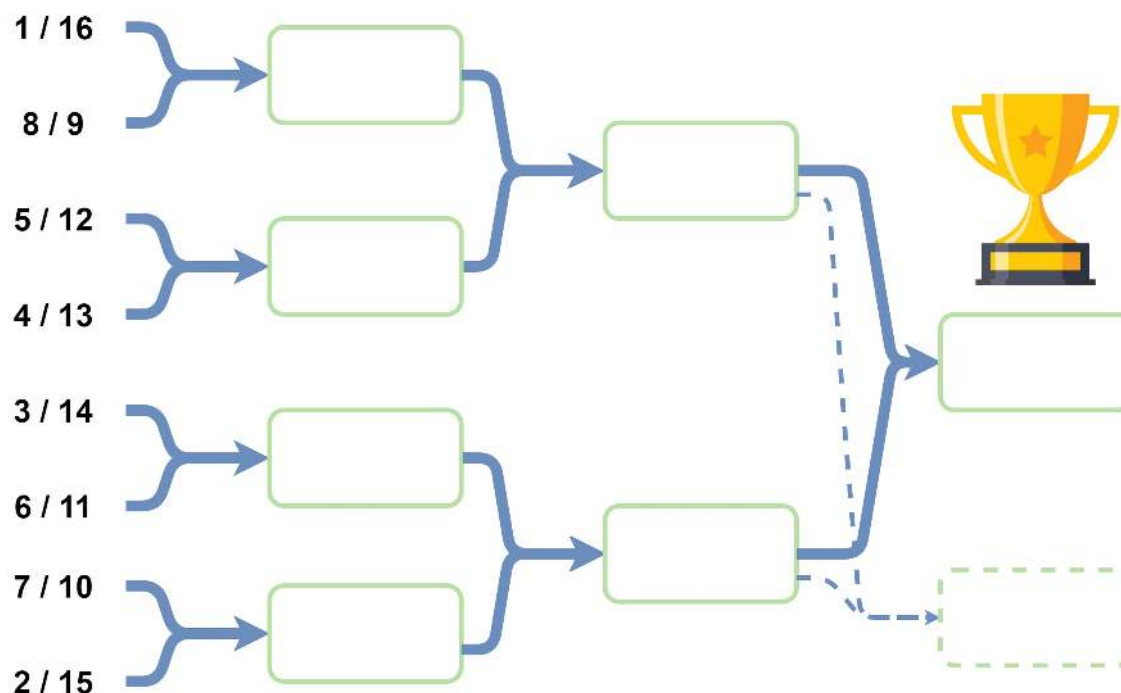

Figure 11: Tree of the final phase
Each team that wins its play-off match will be included in the main draw of the final phase of the match (B). At the end of the play-off phase, the tree of the final phase of the match (B) presented in Figure 11 may be revised to more accurately represent the level of each team.